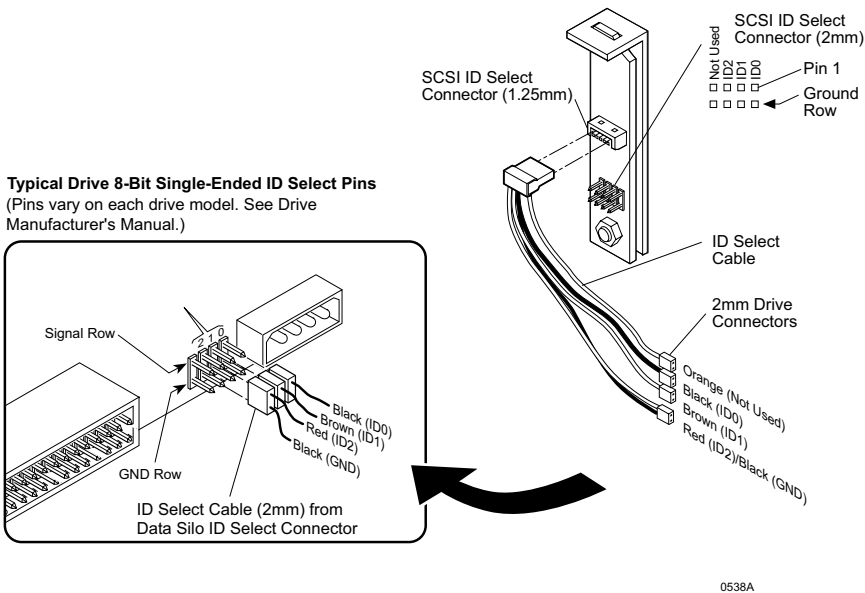

Figure 11: 8-Bit SCSI ID Cable Connection
The unit ID cable contains **black**, **brown**, **red/black**, and **orange** wires. Attach three (3) connectors from the SCSI ID select cable to the appropriate 2mm drive pins (Figure 11). The fourth (orange) wire is not used for the 8-bit installation.